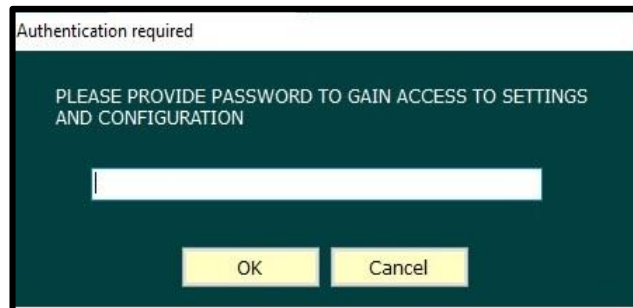
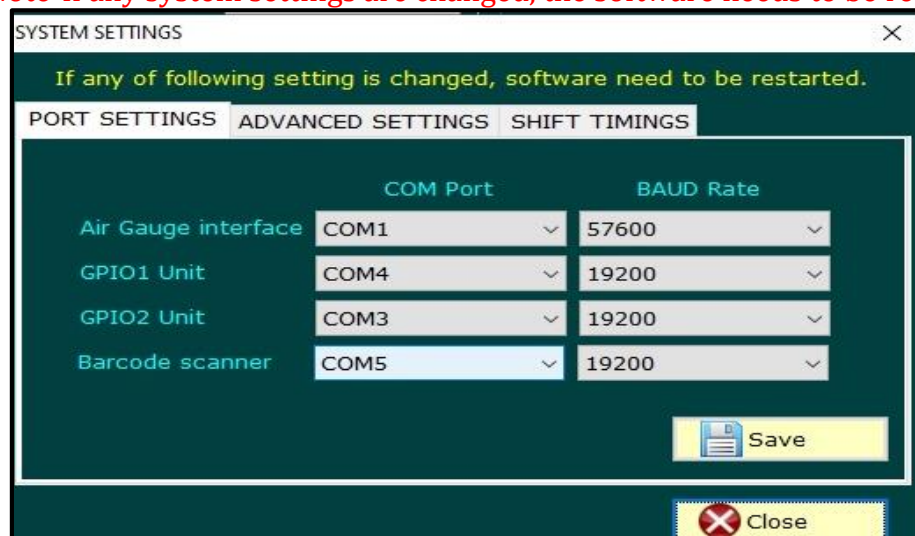

Figure 5
Figure 6
Click on the main page settings button. After clicking on the window as shown in figure 5, enter the password and click 'OK'. The figure 6 window will show. Here are three options.
- Make the following settings by clicking on port settings as shown in figure 6.